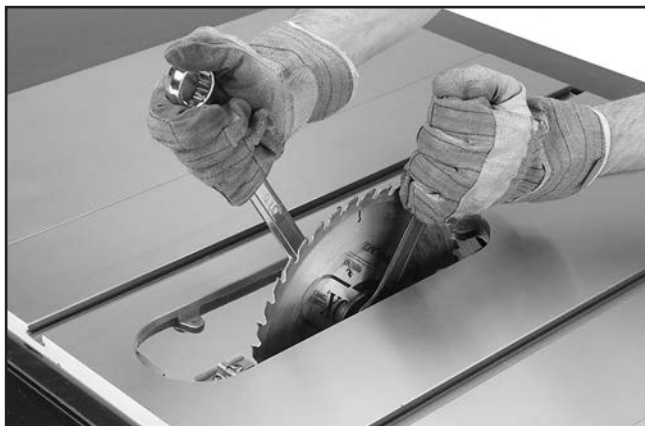

Figure 29. Securing blade.
4. Put on a pair of heavy leather gloves and use the included arbor wrenches to tighten the arbor nut (turn clockwise to tighten), as shown in **Figure 29**.